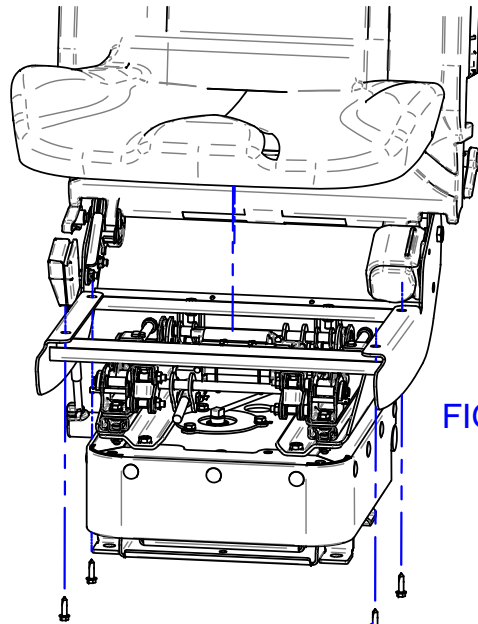

FIG. 7
11. SECURELY REATTACH CUSHION ASSEMBLY. USING (4) 1/4"-14 SCREWS. (FIG. 7)